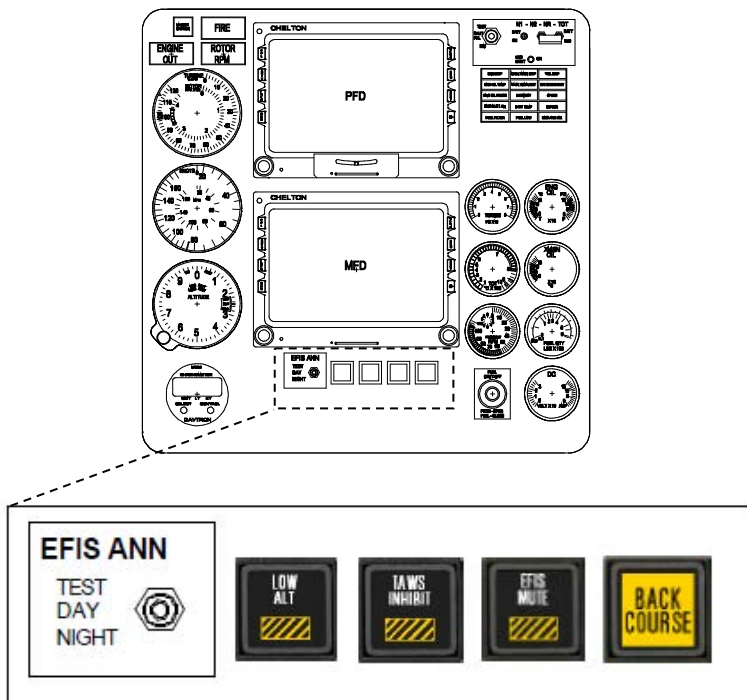
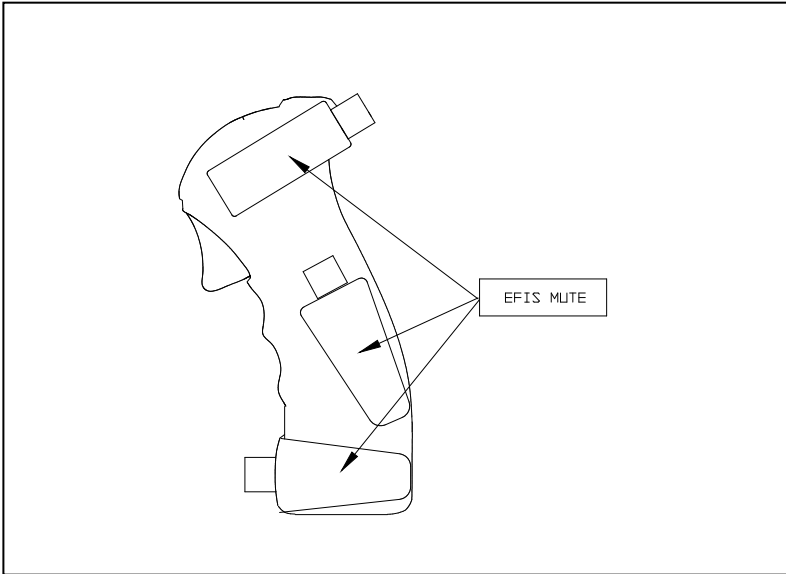

Figure 5-10-1. Annunciation/Switch Panel
Figure 5-10-2. EFIS Mute Switch on the Pilot Cyclic
1. The EFIS annunciation/switch panel is shown in Figure 5-10-1. The annunciation/switch panel is located on the main instrument panel directly below the MFD.
2. TAWS LOW ALTITUDE ANNUNCIATOR SWITCH - The "LOW ALT" (Amber) annunciator switch, when activated, illuminates and modifies TAWS parameters to reduce nuisance alerts during low altitude operations. Activating the "LOW ALT" TAWS will reduce the required terrain clearance by approximately 30%, both below and ahead of the aircraft. The "LOW ALT" annunciator switch is located directly below the MFD (Figure 5-10-1).
3. TAWS INHIBIT ANNUNCIATOR SWITCH - The “TAWS INHIBIT” (Amber) annunciator switch, when activated, illuminates and inhibits the visual and audible TAWS alerting functions. Activating the “TAWS INHIBIT” will inhibit the TAWS completely. This can be done to prevent cautions and warnings while operating to or from areas that are not recognized as landing areas in the EFIS data base. The pilot should be aware that all TAWS cautions and warnings are inhibited when this feature is activated. The pop-up function is disabled. The “TAWS INHIBIT” annunciator switch is located directly below the MFD (Figure 5-10-1).
4. EFIS MUTE SWITCH - The “EFIS MUTE” (Amber) annunciator switch is located directly below the MFD (Figure 5-10-1). As an option, the EFIS mute switch will be located on the cyclic (Figure 5-10-2) and will be labeled “EFIS MUTE”. The mute switch is a momentary push button switch that mutes the EFIS warning voice alerts only after a warning condition is activated. If a new warning condition occurs after the mute switch is pressed, the new warning will repeat until the mute switch is again pressed or the condition is corrected.
5. BACK COURSE ANNUNCIATOR - The “BACK COURSE” (Amber) annunciator indicates that the NAV receiver is operating in the back course mode as described by the following: Some optional NAV receivers (e.g. Garmin SL-30) provide a “BACK COURSE” mode. When the BACK COURSE mode is selected, the receiver corrects the CDI display for the reverse sensing inherent in a localizer back course signal. With this feature activated, the pilot flies the localizer back course approach using the same techniques as he would on the front course of the localizer. That is, the pilot should fly toward the needle. In addition, this mode also suppresses the glide slope indicator to prevent any false GS indications. The “BACK COURSE” (Amber) annunciator may be located directly below the MFD (Figure 5-10-1).